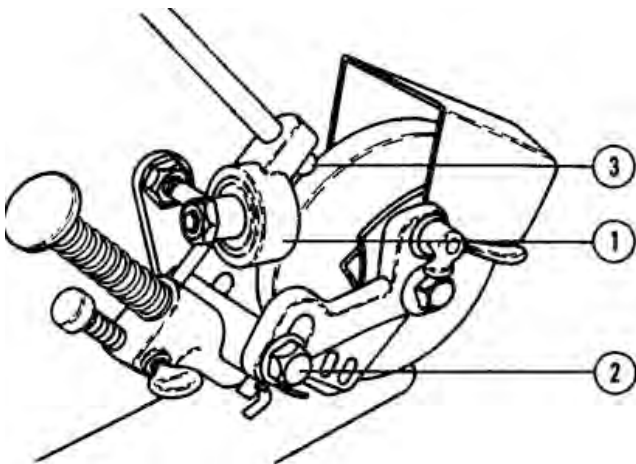

Fig. 9
19. Grinding Wheel Dresser (see fig. 9) The diamond dresser holder is mounted on the left end of the spreader bolt and is held in place by a large wing nut.